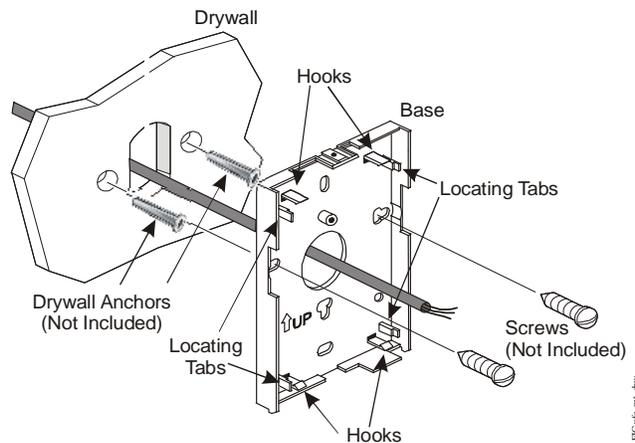

Figure 2: Surface Mounting to Drywall
3. Carefully remove the PCB from the base by releasing the PCB from the top two hooks (Figure 2).
- a. Align the PCB between the bottom two locating tabs and under the hooks at the bottom of the base (Figure 2).